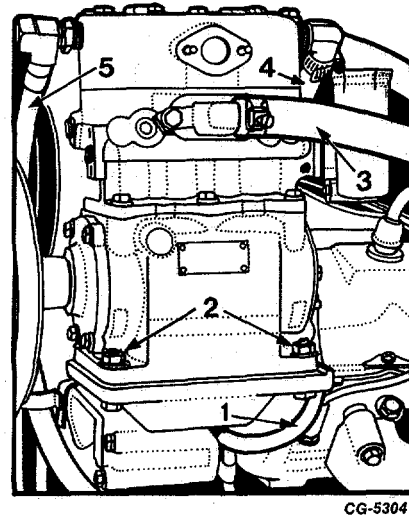

Fig. 11 Air Compressor Removal
3. Disconnect water inlet, water outlet, air inlet and oil feed lines from air compressor, Figure 11.
4. Loosen four nuts on bracket and slide compressor inward, Figure 11. Remove V-belt and water pump front pulley.